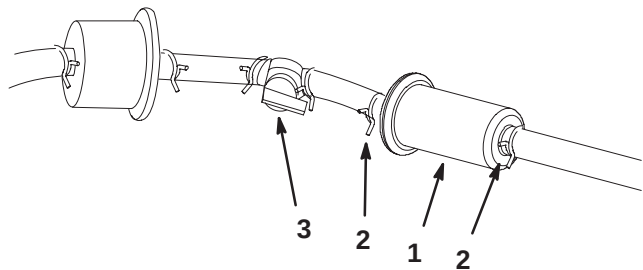

Figure 46
4. Close the fuel shut-off valve (Fig. 46).
5. Squeeze the ends of the hose clamps together and slide them away from the filter (Fig. 46).
7. Install a new filter and move the hose clamps close to the filter (Fig. 46).
9. Open fuel shut-off valve (Fig. 46).